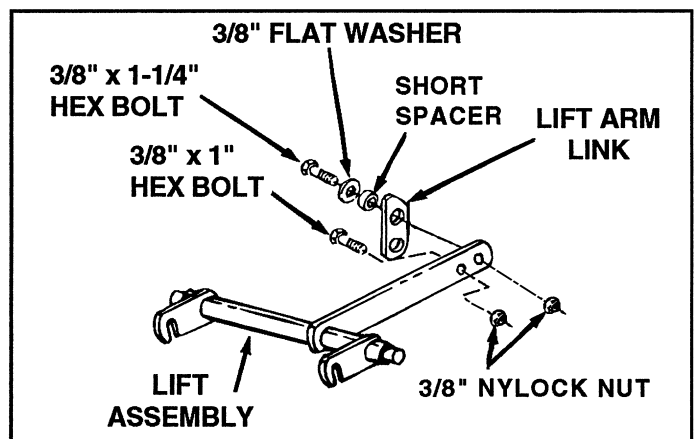

FIGURE 17
13. Pre-assemble lift arm link to inside of long arm on lift assembly. As shown in figure 17.
14. Assemble one 3/8" x 1-1/4" hex bolt through 3/8" flat washer, through short spacer, through large hole in lift arm link near angle end and through hole in long arm nearest the end. Secure with one 3/8" nylock nut. See figure 17.
15. Assemble one 3/8" x 1" hex bolt through second hole from end of long arm. Secure with one 3/8" nylock nut. This bolt is used as a limit stop for the lift arm link. See figure 17.
Lift arm link must be positioned as shown in figures 17 and 19.